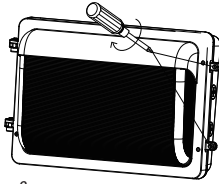

Figure 8
8. Secure the light engine of the fixture with screws. (Figure 8)